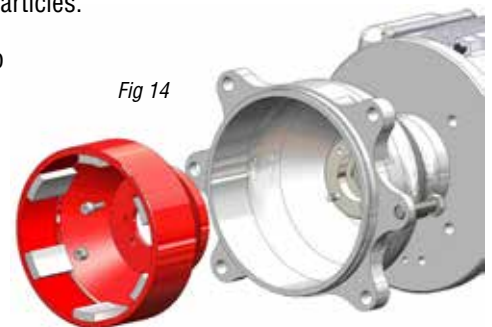

Fig 14
**⚠ WARNING:** This pump should only be disassembled and assembled using the recommended procedures. The magnetic attraction is powerful enough to rapidly pull the motor end and the wet end together. ALWAYS use the jack-screws (item 14) to assemble/disassemble the pump. Do not place fingers between the mating surfaces of the motor and wet ends to avoid injuries. Keep the drive magnet and impeller assembly away from metal chips or particles.
- Using a 13 mm socket, remove the (2) M8 hex head cap screws (item 23) and two M8 hex nuts (item 21) that hold the outer magnet ring to the shaft adapter. If necessary, use the two M8 hex bolts as jack screws in the tapped holes of the magnet ring. See figure 14.